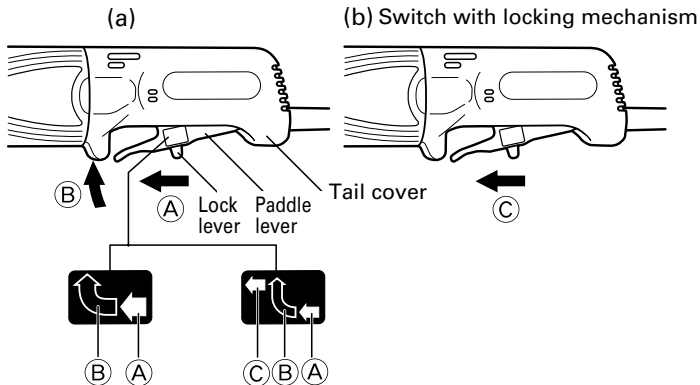

Fig. 3
Switch On: To switch on, slide the lock lever in the direction of ① and press the paddle lever in the direction of ② as shown in Fig. 3-a.
Furthermore, slide the lock lever in the direction of ③ shown in Fig.3-b while pressing the paddle lever to lock and enable continuous operation.
Switch OFF: To release the locking mode, press the paddle lever in the direction of ② shown in Fig.3-a, and release the paddle lever to switch off.
To switch on, slide the lock lever in the direction of ① and press the paddle lever in the direction of ② as shown in Fig. 3-a. Release the paddle lever to switch off.